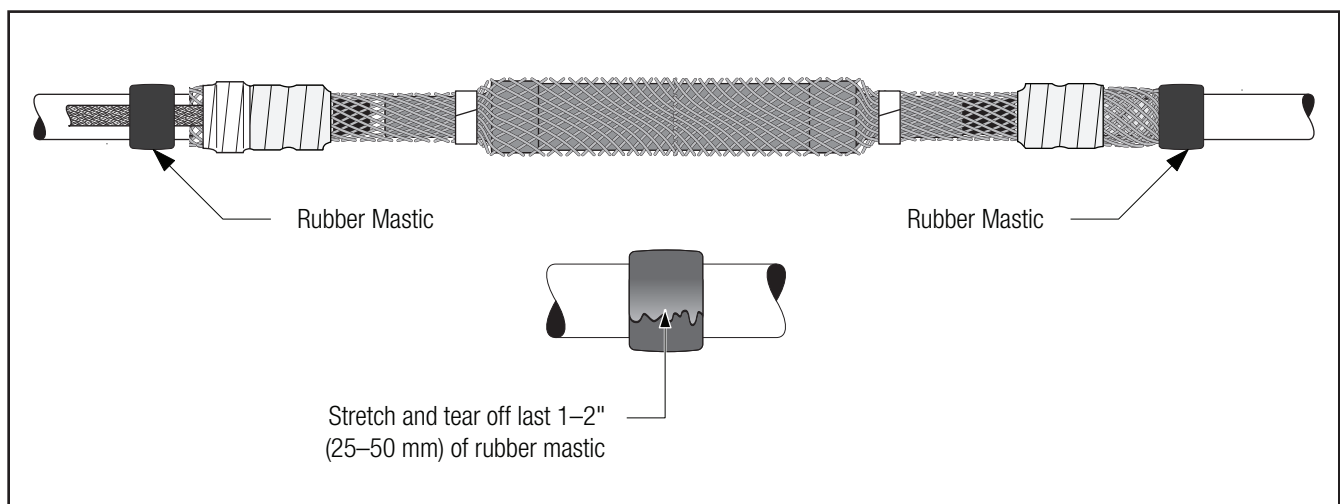

Figure 41
8.1 Apply one roll of slightly stretched rubber mastic tape around each jacket end (tacky side toward cable). Stretch and tear off the end of the rubber mastic as shown below. If ground strap was applied, tape over mastic sealing strips. For CN cable, cover mastic seal next to binder (Figure 41).